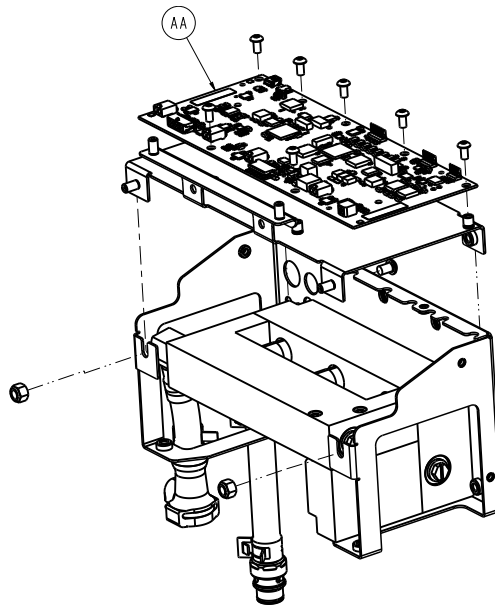

Figure 35 – Main control board
7. Disconnect the 10 cable connections to the MCB (AA). Labeled E, F, G, H, J, M, N, L, AG, and AH (Figure 35).